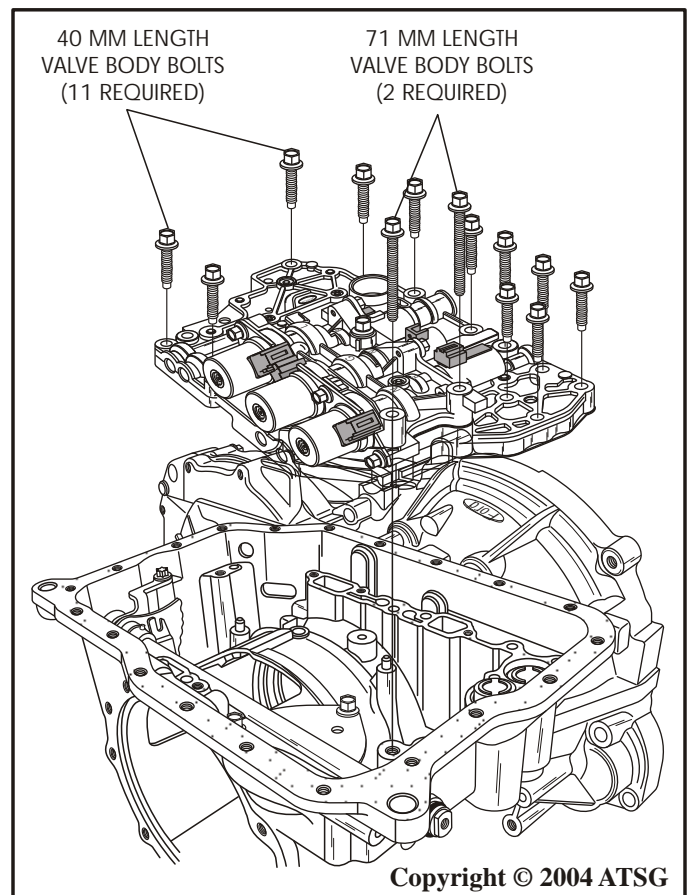

Figure 158
14. Install the pre-assembled valve body assembly onto transaxle case, as shown in Figure 158.
15. Install eleven 40 mm length bolts and two 71 mm length bolts in the positions that are shown in Figure 158.